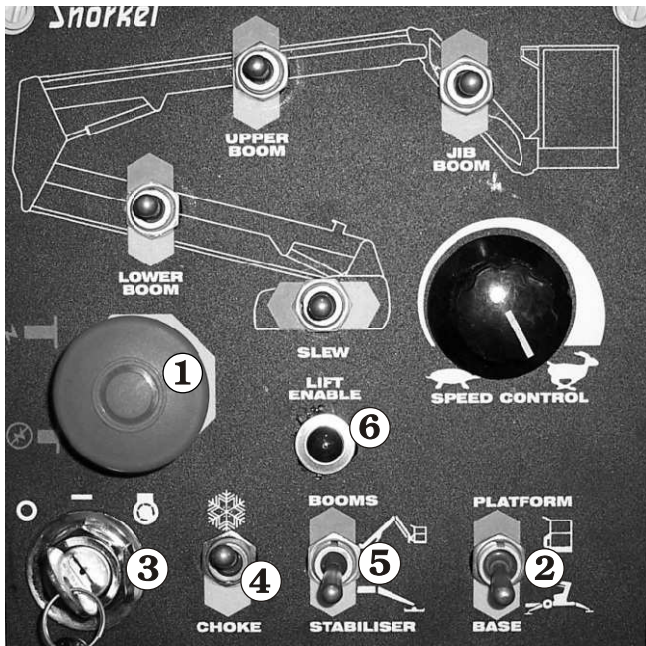
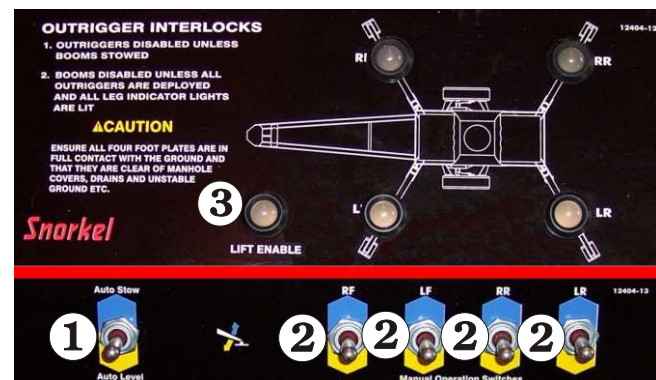

Figure 8.3 - Ground Control Box Starting
Figure 8.4 - Auto Level Controls
1. Set the **Emergency Stop** switch **1** to ON (see Figure 8.3).
2. Set the **Platform/Ground Selector** switch **2** to GROUND (see Figure 8.3).
3. Insert the key **3** (see Figure 8.3) into the **Master Key Switch** and turn the key on.
4. If the engine is at ambient temperature (cold), hold the **Choke / Cold Start Switch** **4** (see Figure 8.3) up throughout the next step.
5. Turn the key to **Start** and hold it there until the engine starts or for a maximum time of 6 seconds. When the engine starts release the key **3** and the choke switch **4**, if you used it (see Figure 8.3).
Ensure the boom/stabiliser switch (item **5** on the ground control box) (see Figure 8.3) is set to stabiliser.
When levelling the machine in either the manual or automatic mode care is required to ensure that all of the foot plates are firmly on the ground, the machine is level and the lift enable light (item **6 Fig 8.3, and item **3** Fig 8.4) is ON before entering the platform.**
1. Operate each switch **2** (see Figure 8.4) to raise or lower each stabiliser one at a time. Use the level bubble (see Figure 2.7 in Safety Devices Chapter) to check the machine is level.